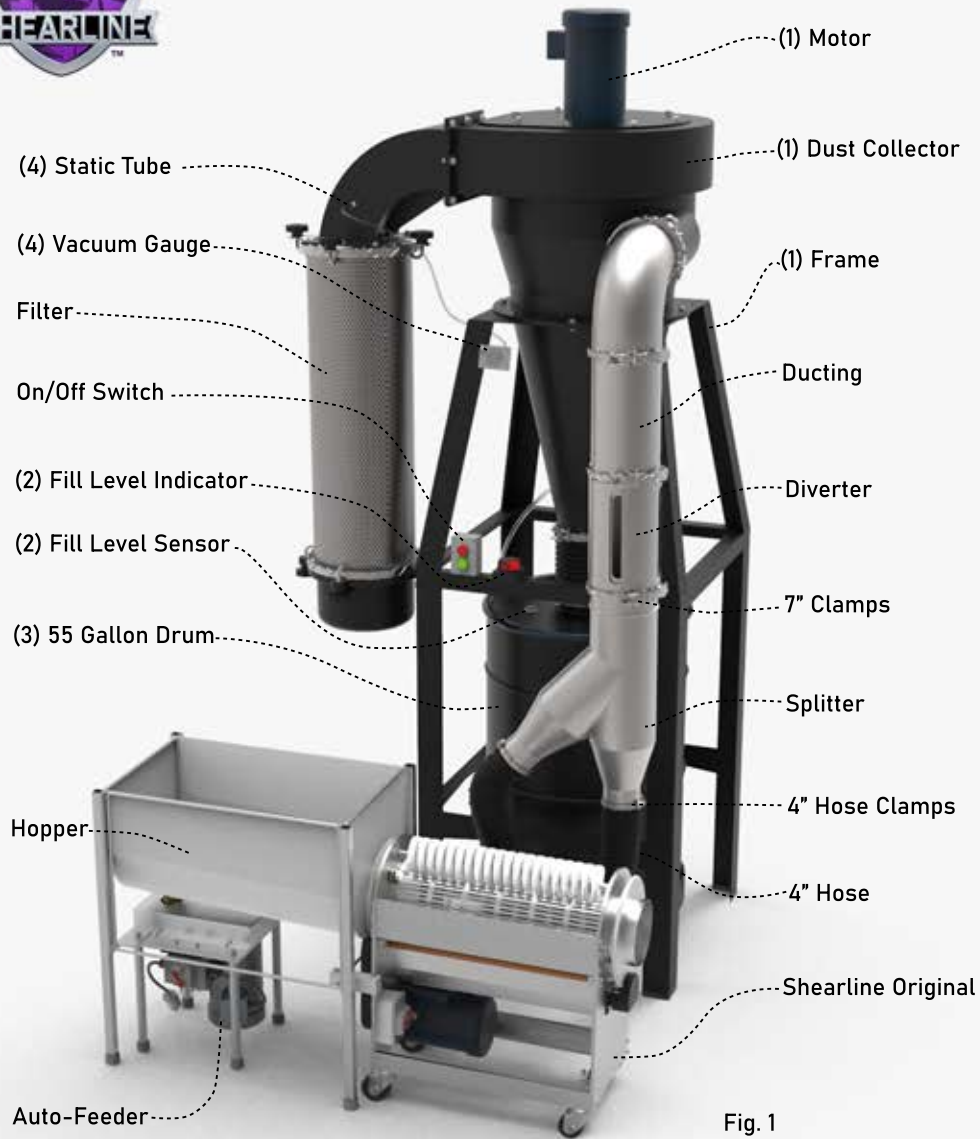

Fig. 1
- 3: Orient your **FRAME** so that the **55 GALLON DRUM** can be **removed without obstruction**. Note the opening in Fig. 1